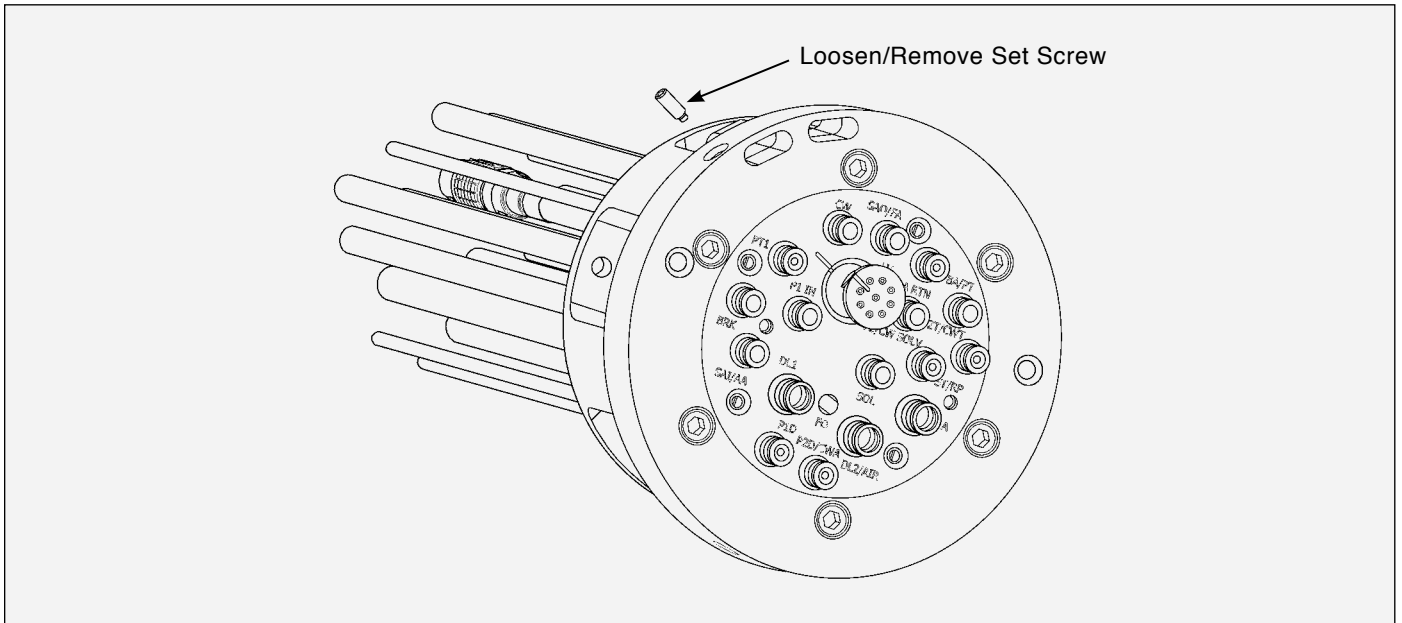

Figure 18: Low Voltage Cable Removal
**LOW VOLTAGE CABLE REMOVAL - PARTS LIST (Figure 18)**
## Low Voltage Cable Removal (Refer to Figure 18)
3. Using 3/16" (4.8mm) Hex Key wrench, remove set screw [2] (see Figure 18).